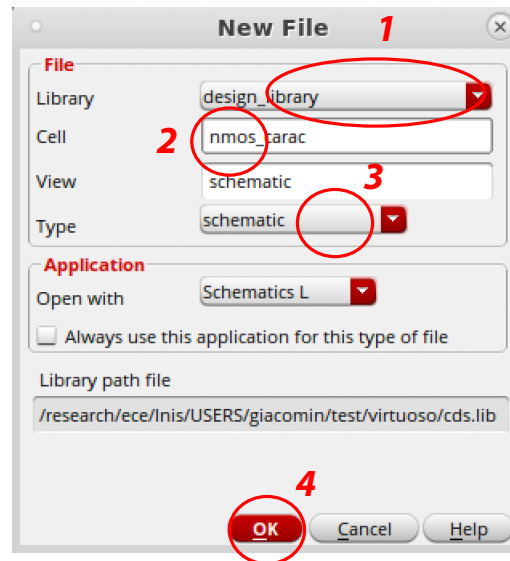

Figure 1.4: Creating a new cell.
1. Create a new cell for the *nmos* characterization (*File -> New -> Cellview...*). Verify that your design library is selected in the *Library* field. Specify the name of your cell in the *name* field (such as *nmos_carac*). For now, you will perform an electrical simulation through a schematic so choose the schematic type, as depicted in Fig. 1.4, and click OK.